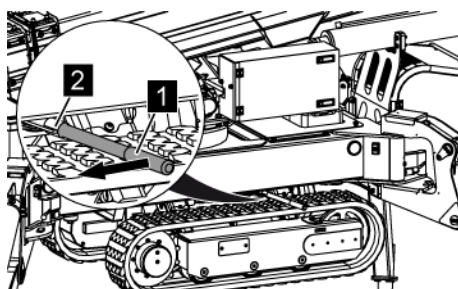

Fig. 145: Inserting the hand pump lever
5. ➔ Connect the hand pump lever (Fig. 145/1) to the locking mechanism (Fig. 145/2).